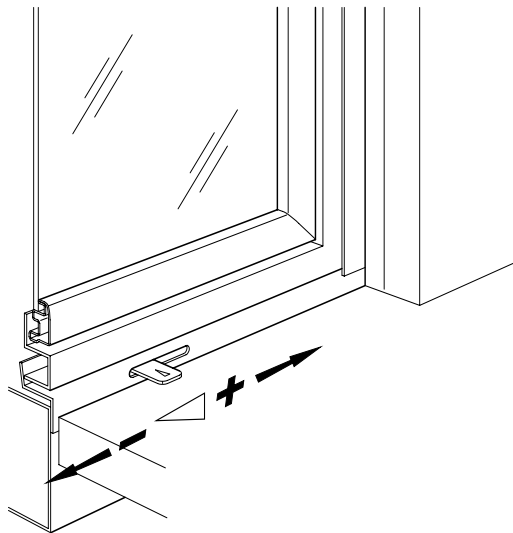

Fig. 7.1.1
- Aprire al massimo il registro dell'aria comburente (Fig. 7.1.1: - CHIUSO; + APERTO).
- Open the comburent air grid completely (Fig. 7.1.1 - CLOSED; +OPEN). When the fireplace is cold, stove lighting can be done with the door left ajar to encourage condensation evaporation which forms on the glass. Once combustion is underway the door is to be kept closed.
- Den Schieber der Verbrennungsluft ganz öffnen (Abb. 7.1.1: - GESCHLOSSEN, + OFFEN).
La **COMBUSTIONE PRIMARIA** avviene su Monoblocco ed Ecomonoblocco immettendo nel braciere, attraverso delle feritoie, aria che viene regolata dal pomello esterno posizionato in basso sulla destra del focolare (Fig. 7.1.1):
Takes place on Monobloc and Econobloc models by sending air to the grate through slots. The air is adjusted by means of the external knob located on the lower right of the fire box (Fig. 7.1.1):